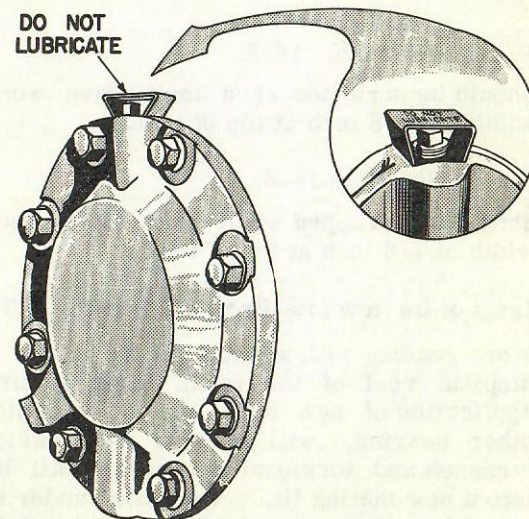

Fig. 15-8
- b. Weld a seal, similar to Cat. 8864006P1, over top of pipe plug; this seal bears instruction "DO NOT LUBRICATE". See Fig. 15-8.